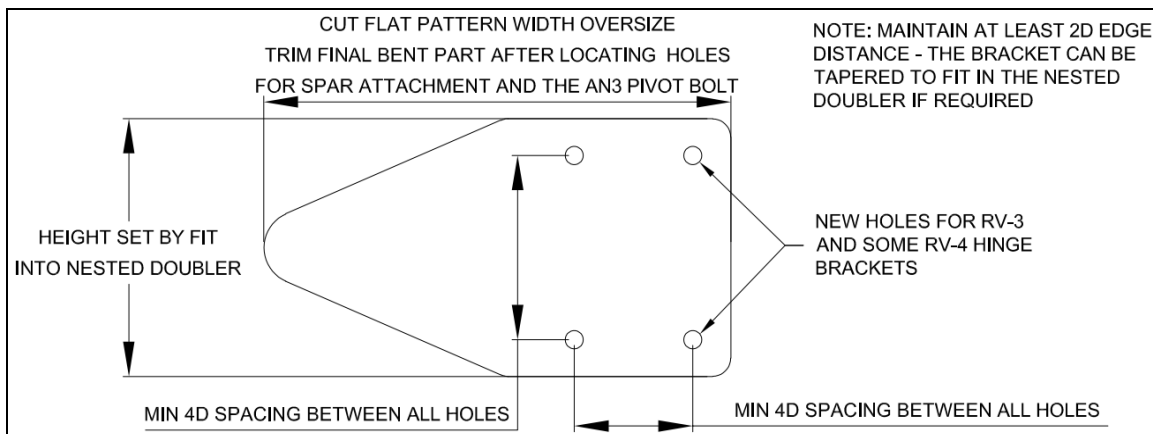

FIGURE 13: HINGE BRACKET FLAT PATTERN GUIDELINES
Step 6 (RV-3): Fabricate outboard elevator hinge brackets from .063 4130 Condition N Steel. See Figures 13 and 14 for guidelines.
Step 13 (RV-3): Drill the holes common to the hinge brackets and the rear spar in the new outboard elevator hinge brackets using the original hinge brackets that were removed from the rear spar as a template. Reference Figure 13.
Step 14 (RV-3): Match drill the two new holes in the hinge brackets to the nested spar doubler, rear spar, and repair doubler (if required). Reference Figure 13.